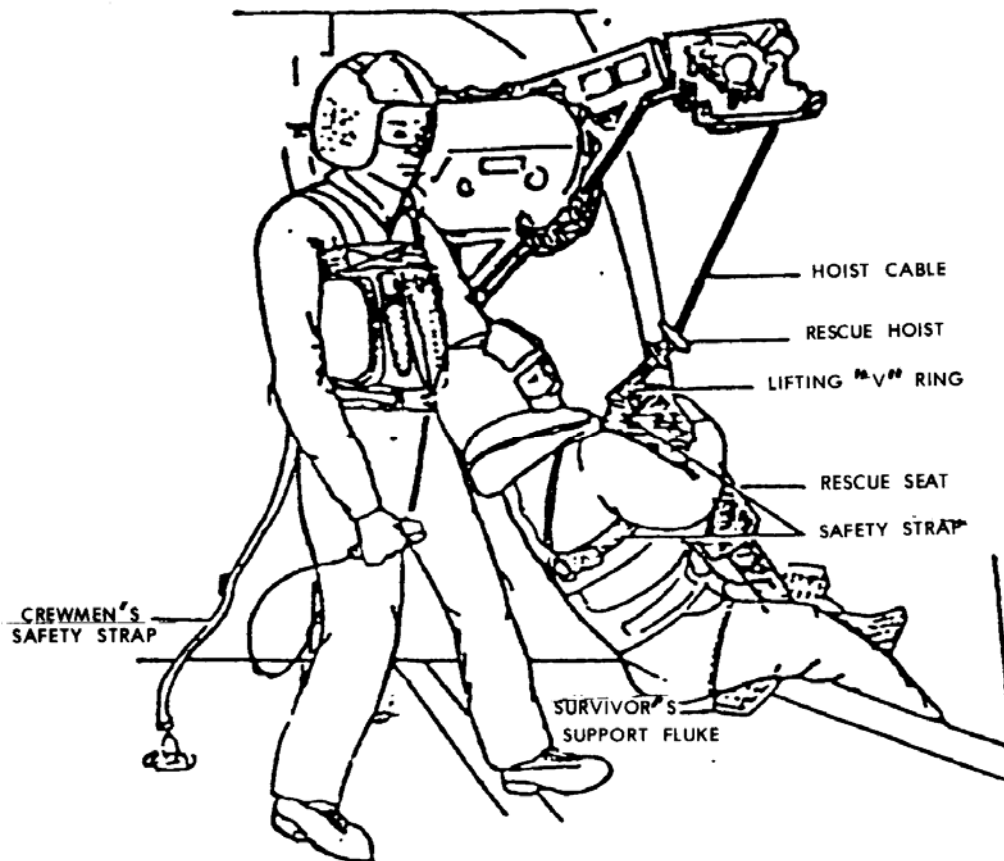

Figure 5-14. Pulling the casualty inside the helicopter
d. The operator pulls the casualty into the helicopter compartment and lowers the penetrator so the support fluke rests on the deck (figure 5-14). The operator continues to lower the penetrator until the casualty is lying on his back on the deck.